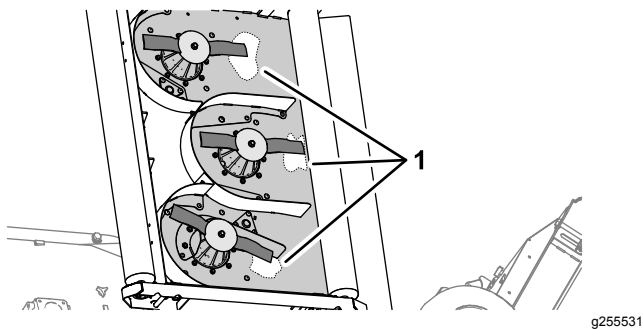

Figure 71
2. Clean the bottom of the mower deck at the area adjacent to the cutting edge at the rear of the blade (Figure 71).